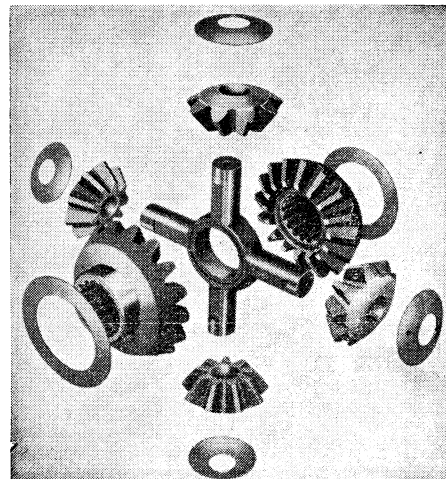

Fig. 109 Layout of differential parts
2. Lubricate differential case inner walls and all component parts, Fig. 109, with axle lubricant.